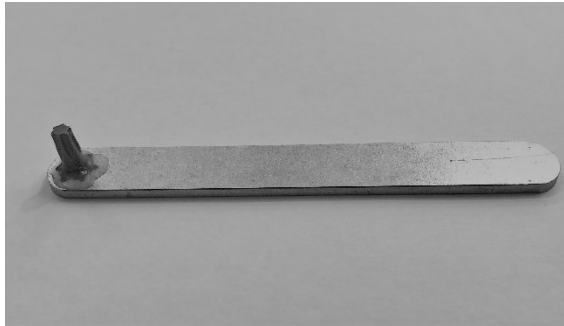

Figure 97
9. Take the wrench TORX T20 provided with the spare part (Figure 97)